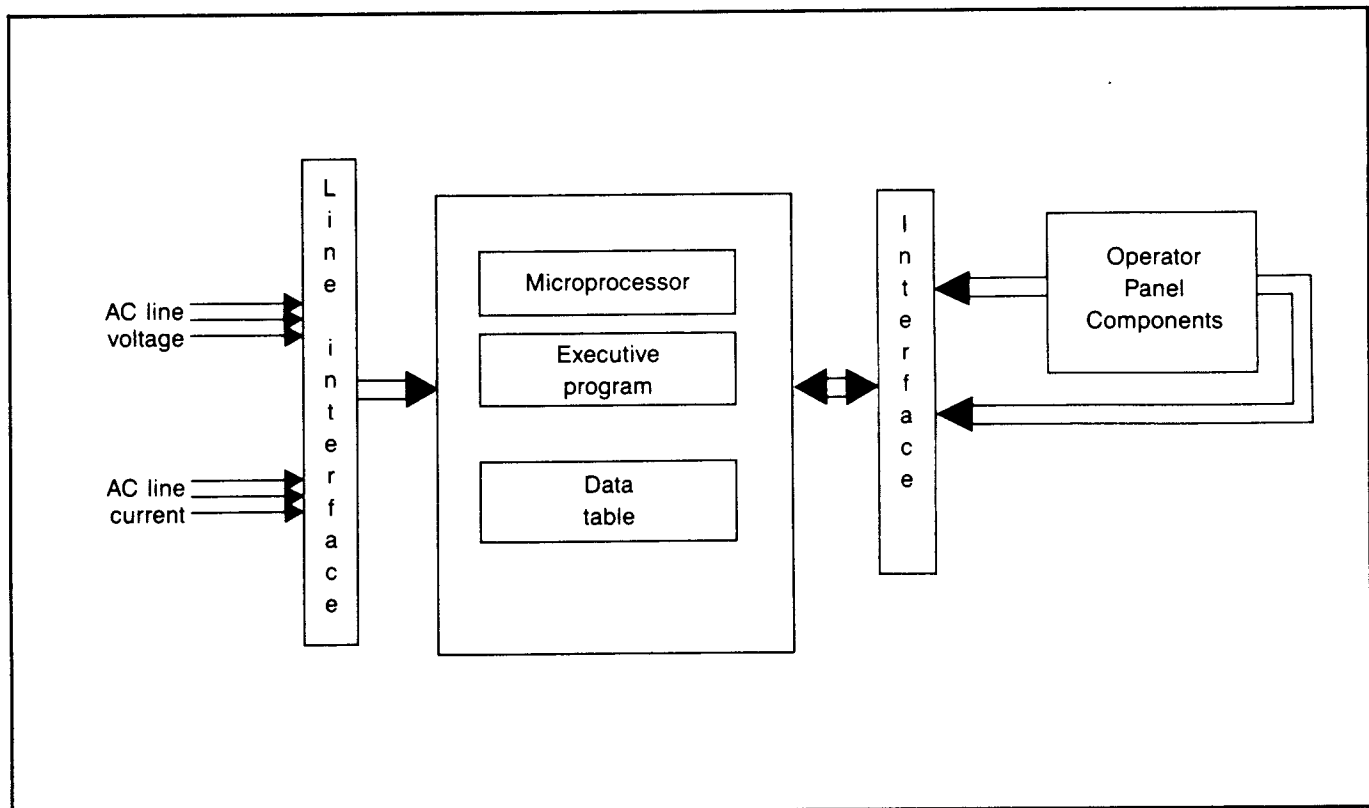

Figure 6.1 — IQ Generator Basic Block
6.1 Basic Block — The IQ Generator is controlled by a self-contained microprocessor which is directed by an "executive program" resident in ROM (read-only memory). (See Figure 6.1.) The microprocessor directs the following 2 operations: